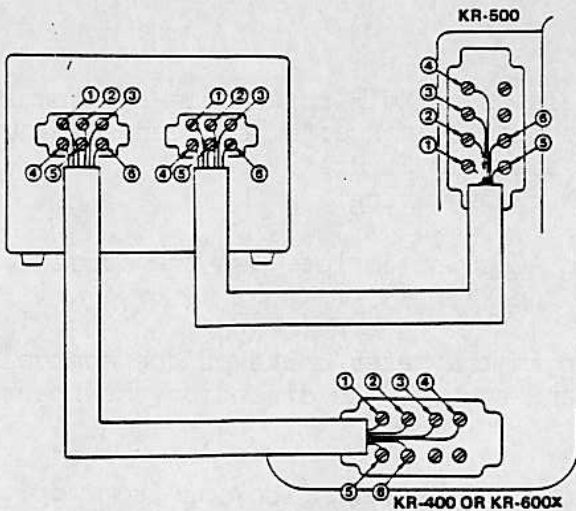

Fig 3
1. Connect 6 conductor cable between the terminals of AZIMUTH rotor unit and terminal for AZIMUTH of the control box, and each wire must be connected between same numbers of the terminals on control and rotor as shown in Figure 3.